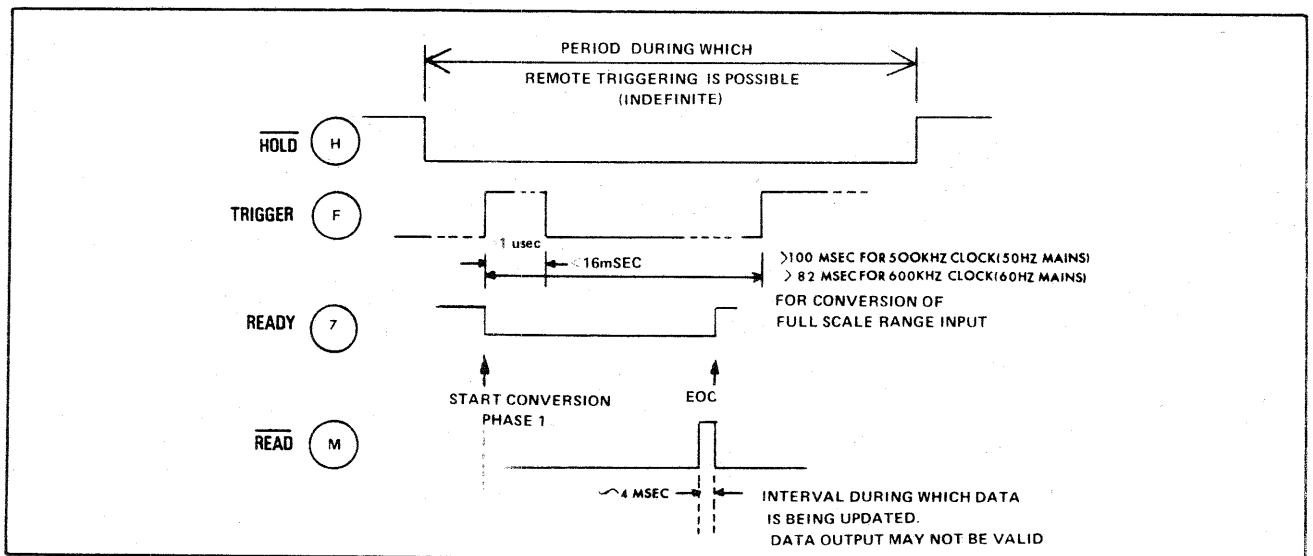

Fig. 2-10. Trigger generating waveforms
b. To initiate remotely controlled conversion cycles, raise TRIGGER (F) to a positive level for at least 1 usec and retain the high level for up to 16 msec. (See timing waveform of Figure 2-10.)
c. The DMM Model 3400 will complete as many conversion cycles as possible as long as TRIGGER (F) is at high level. The minimum duration of a conversion cycle is 39 ± 2 ms (600kHz clock) or 46 ± 2 ms (500kHz clock). To limit the operation to a single conversion per trigger, the TRIGGER control signal should be less than 16 msec.